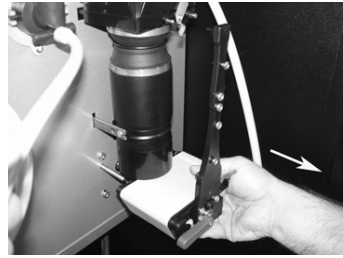

Figure 13e
- **Figure 13e** - Remove the filter carriage by sliding it towards you.
- Refit the carriage assembly (Fig 13e).